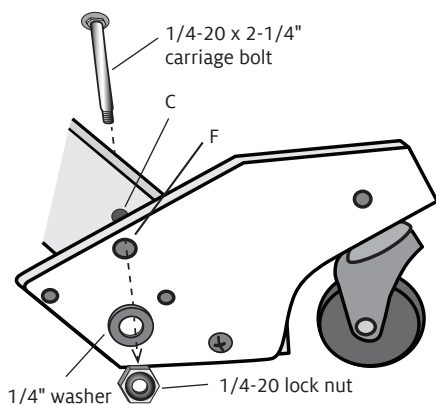

FIGURE 4: CASTER BLOCK TOP
9. Attach the tops of the other three caster blocks to the loom legs: From the inner side of a leg, insert a 1/4-20 x 2-1/4" carriage bolt through hole [C], then through the top hole [F] in the caster block (Figure 4). Cover the bolt with a piece of scrap wood, then tap the bolt into position with a rubber mallet or hammer. Place a 1/4" washer and a 1/4-20 lock nut on the carriage bolt and tighten the lock nut enough to draw the head of the carriage bolt into the wood of the leg. Complete this step for the left outside leg and both inside legs.